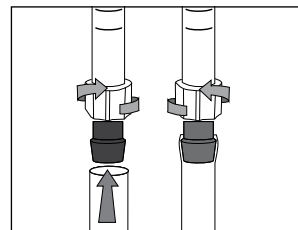

fig 2
- Connect the U-shaped tubes with their flexible tubes, taking care to tighten the ring nuts (fig. 2).